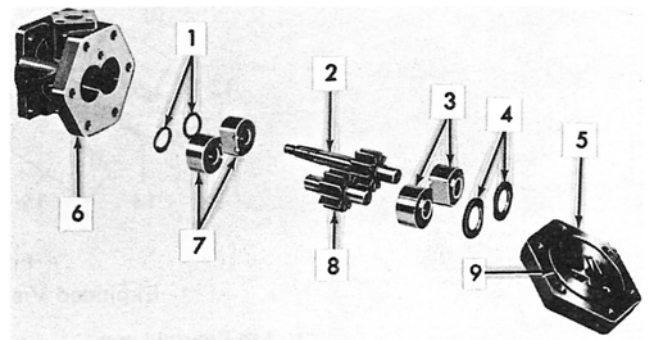

Figure 13
3. Remove the front seals, front bearings, drive shaft and gear, and the rear bearings and O-rings from the pump body, Figure 13.
Refer to Figure 13